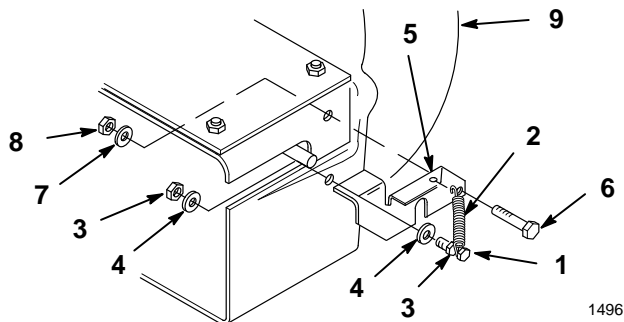

Figure 10
4. Install the long hook end of the tension spring and #10 nut onto a #10 x 3/4" (19 mm) screw. Thread the nut on within 1/8" from the head end of the screw, leaving enough room for the spring to rotate freely (Fig. 10).
5. Slide a #10 washer onto the screw and insert through the blower housing. Install a second #10 washer and #10 nut (Fig. 10). While holding the first nut, tighten the second so that the assembly is tight against the plastic housing.
6. Select the appropriate latch (42" deck–short, 48" deck–long) Hook the spring into the hole in the latch and mount the latch to the blower housing with a 1/4 x 3/4" (19 mm) bolt, 1/4" washer and 1/4" lock nut (Fig. 10). Leave the nut loose enough so that the latch pivots freely.